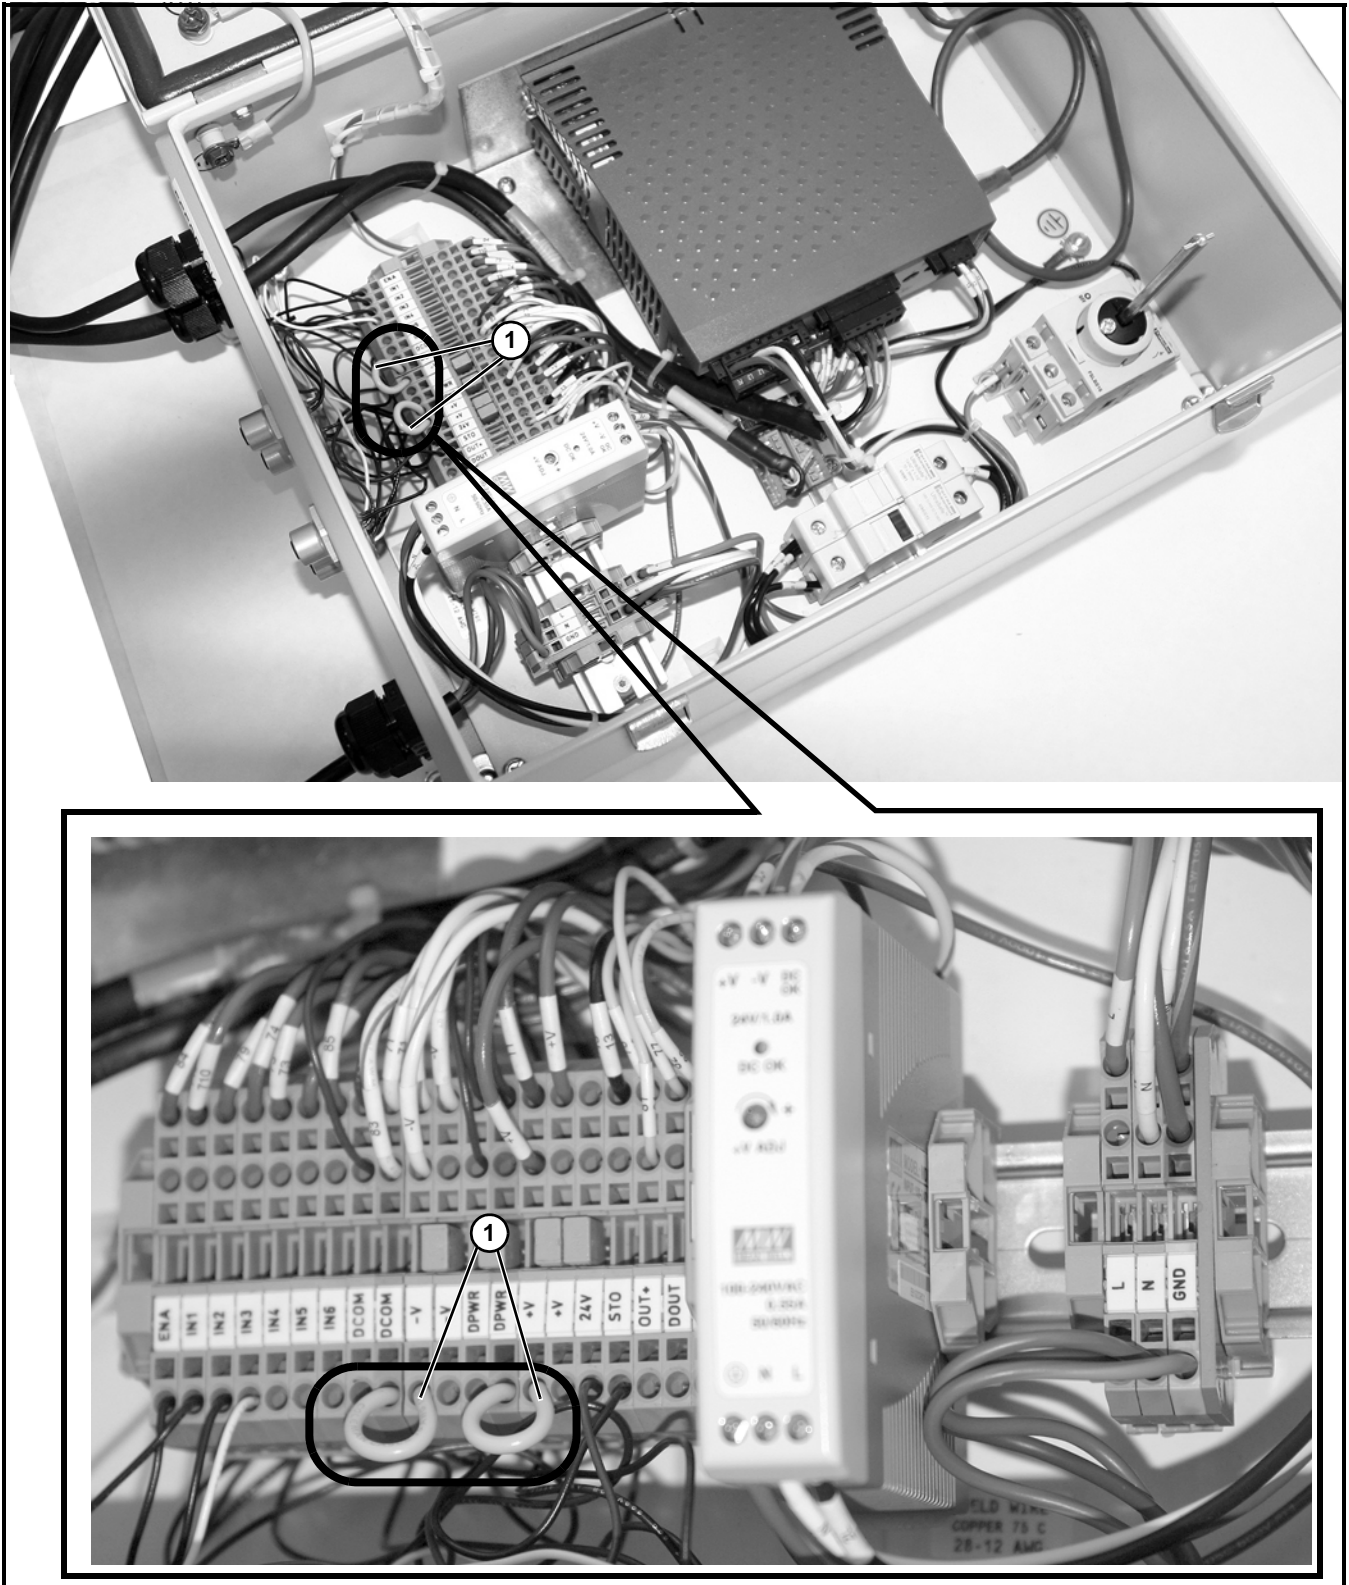

Figure 28
2. Remove the jumpers (**Figure 28, item 1**) indicated in the photograph below to isolate external controller power from servo controller power: